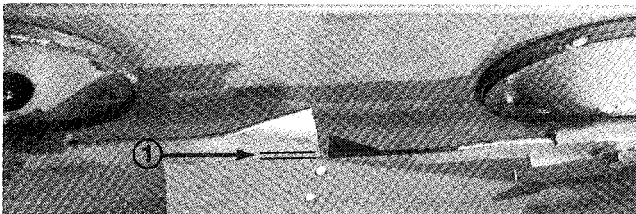

Figure 39
6. Rotate blades so tips line up with one another (Fig. 39). Tips of the adjacent blades must be within 1/8 inch (3 mm) of each other. If tips are not within 1/8 inch (3mm) of each other, proceed to step 7 and add shims between spindle housing and bottom of cutting unit or Step 8 to adjust wing sections.